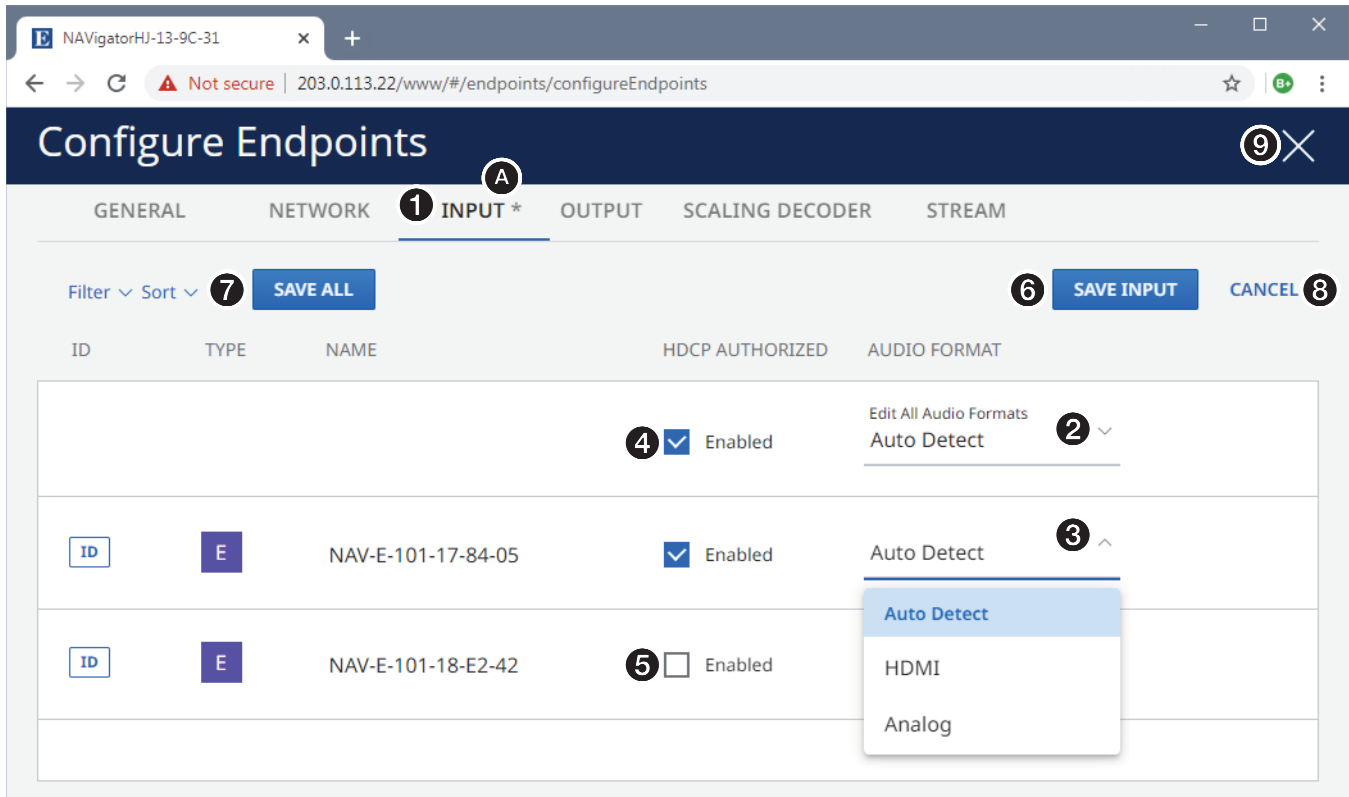

Figure 37. Endpoints Page, Configure Tools – Input Tab
1. Click the **Input** tab (see figure 37, **1**) to make changes to the endpoint settings.